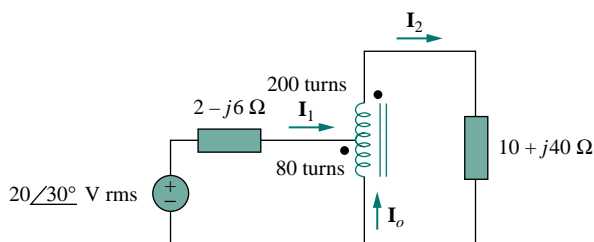

Figure 13.115 For Prob. 13.49.
- 13.49** In the ideal autotransformer of Fig. 13.115, calculate \mathbf{I}_1 , \mathbf{I}_2 , and \mathbf{I}_o . Find the average power delivered to the load.